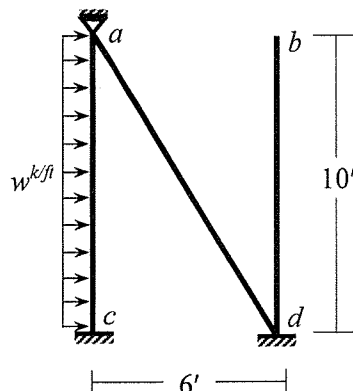

Fig.5
- Frame structure **abcd** shown in **Fig.5** is subjected to a dynamic load, $w = 5e^t \text{ (k/ft)}$. Use *Constant Average Acceleration (CAA)* Method to calculate the rotation of joint **a** at time $t = 0.05 \text{ sec}$ [Given: $EI = 50 \times 10^4 \text{ k-ft}^2$, $\mu = 0.005 \text{ k-sec}^2/\text{ft}^2$, *Damping ratio of the system* = 8%].